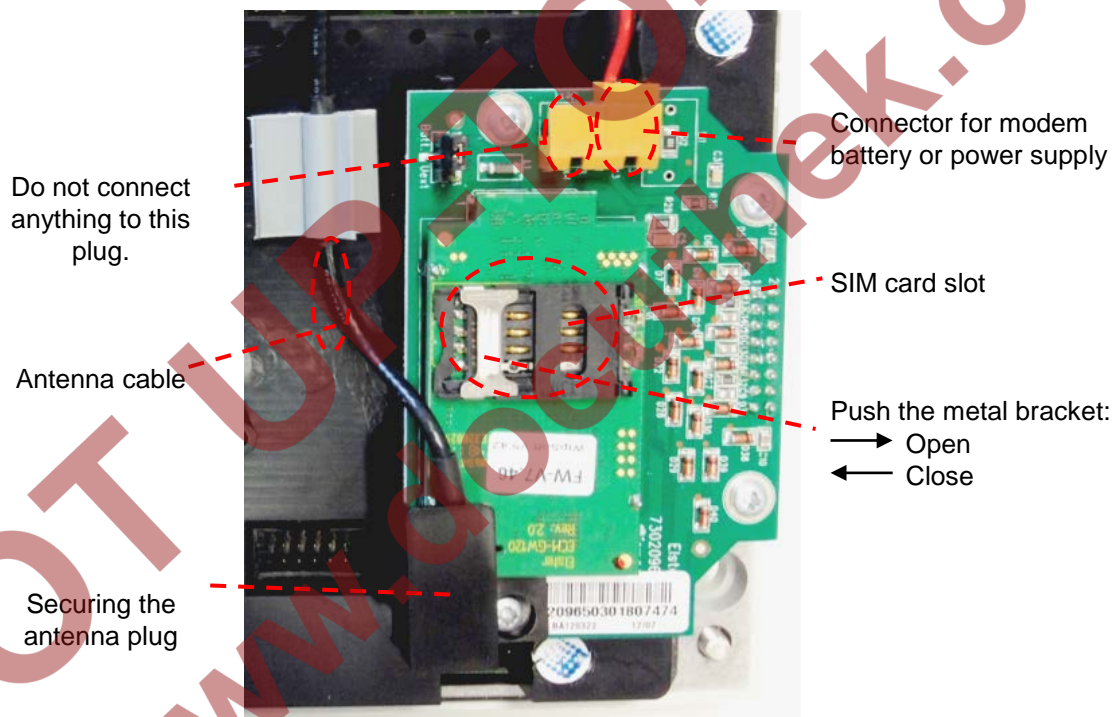

Fig. 7: Modem and SIM card slot
- For version **with power supply unit**: Disconnect the modem backup batteries if applicable from the internal power supply! (see Fig. 7)
The connection between the internal power supply and the modem remains! (siehe Fig. 7)
- For version **without power supply unit**: Disconnect the modem battery from the modem (siehe Fig. 7).
- Make sure the internal power supply is connected to the modem. (siehe Fig. 7)